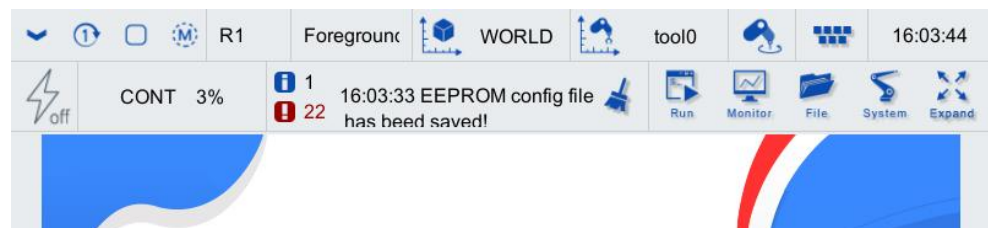

Figure 8-60 "Configuration file is exported successfully" prompt message
Step3. The message bar prompts "EEPROM configuration file has been saved!", as shown in Figure 8-60. Then the configuration file is exported to the selected path.